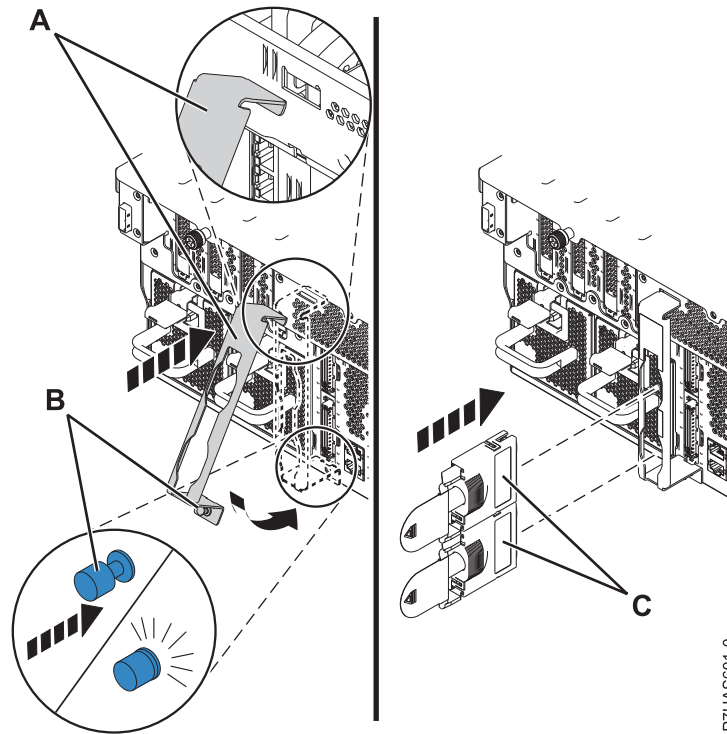

Figure 4. Cable retention bracket installation
17. If the cable retention bracket (A) is provided, perform the following steps:
- a. Install the cable retention bracket (A). Tilt the cable retention bracket, shown in Figure 4 on page 5, to hook the tab at the top of the bracket into the slot in the assembly.
- b. Swing the cable retention bracket toward the chassis and push the bracket fastener (B) into the chassis opening to secure the bracket.